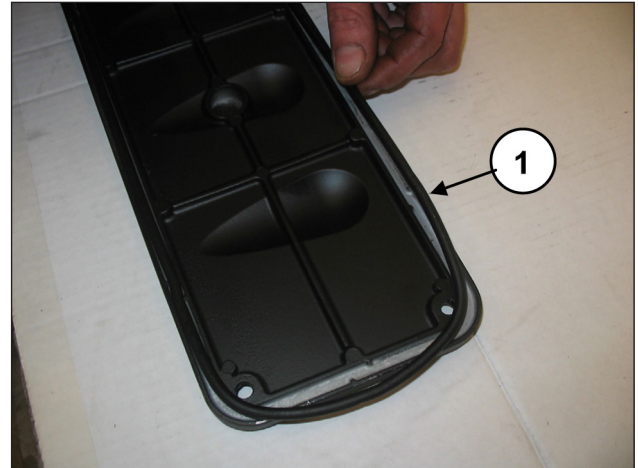
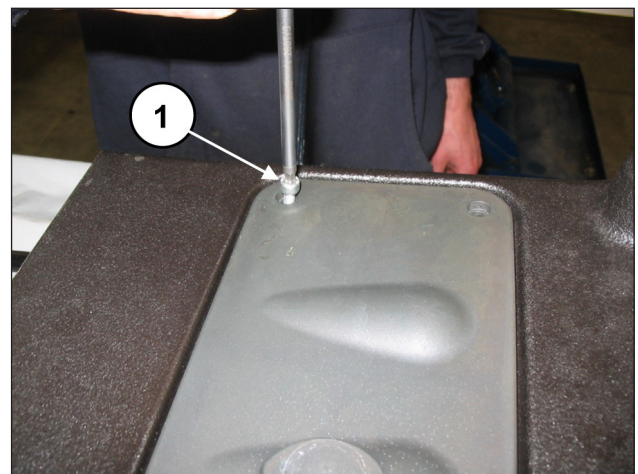

Fig. 99
Fig. 100
Insert the O-ring on the two inspection covers (pos. ①, Fig. 99) and assemble the covers with the use of 4+4 M6x14 screws (pos. ①, Fig. 100).